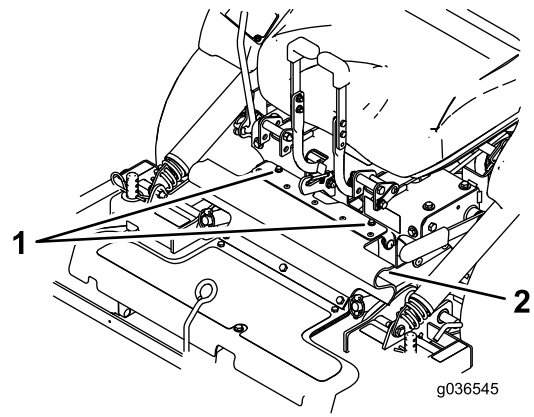

Figure 15
3. Loosen the bolts attached to the rubber guard (Figure 15).
6. Install the rubber guard with the bolts (Figure 15).